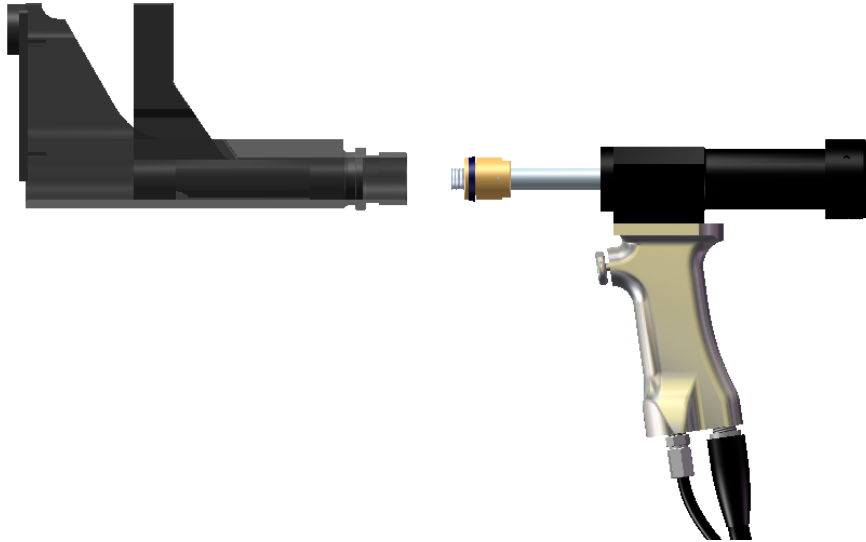

Figure 6-1
1. Thread LB piston rod into LBOA slide assembly then thread LBOA housing into LB housing (Figure 6-1).
(Guard not shown in Figure 6-1 for clarity)